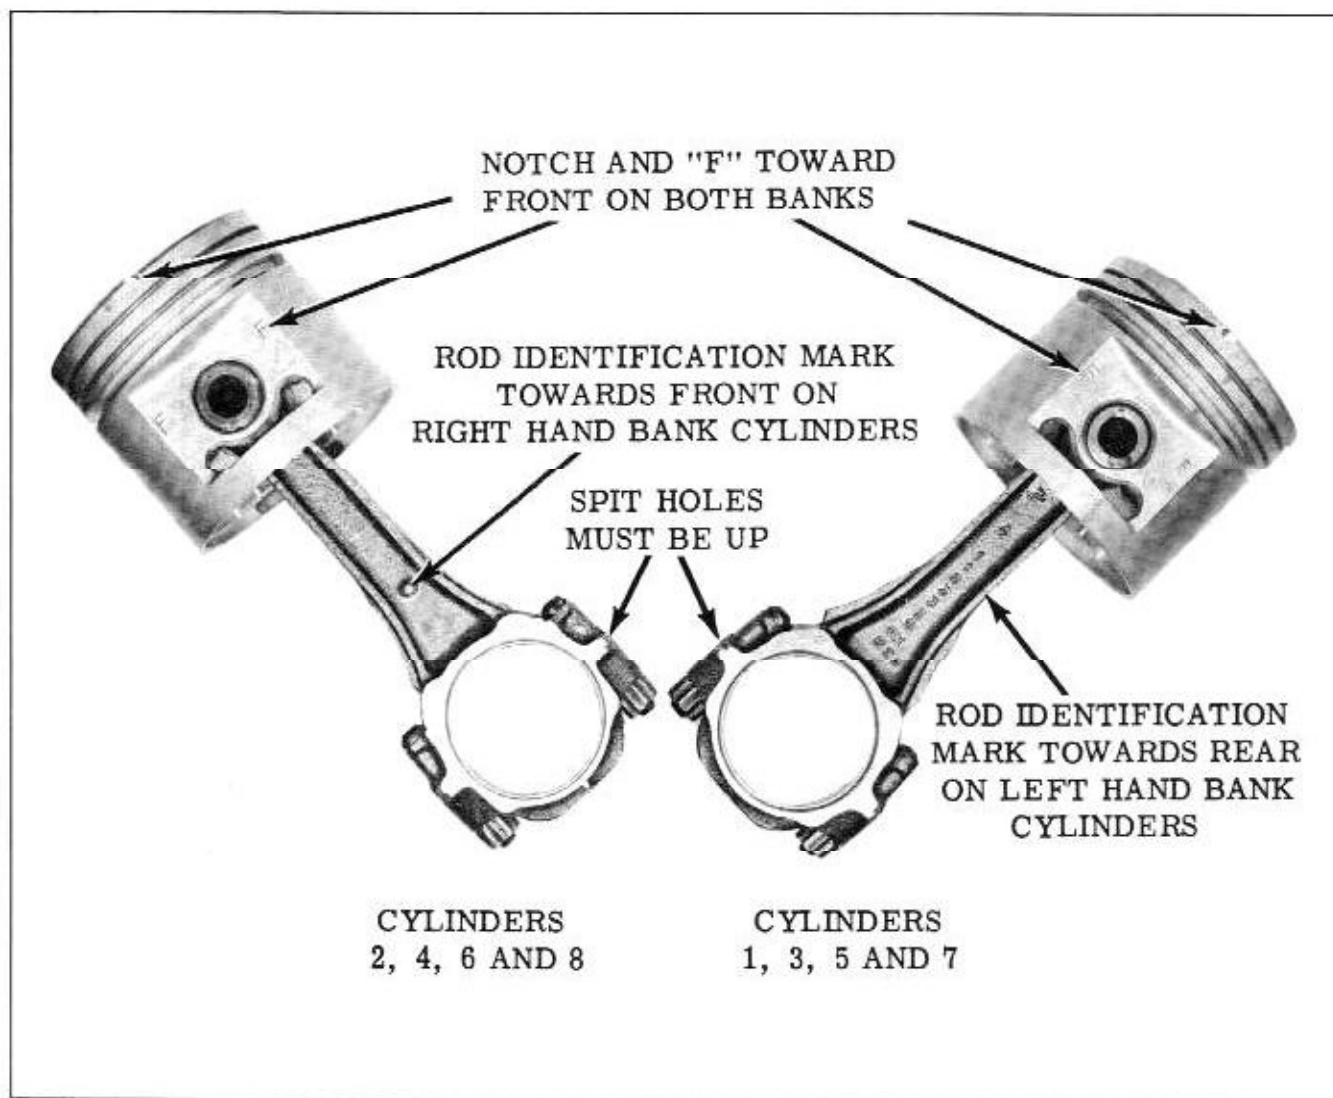

Fig. 8-31 Piston and Connecting Rod Assembly
2. Place piston on Tool J-8754-1 with letter "R" facing up. Refer to Fig. 8-31, for correct rod and piston assembly.